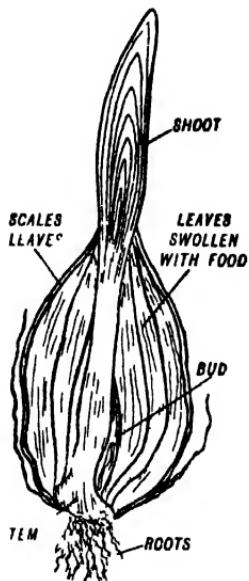

Fig. 132 Bulb cut in two
4. Bulbs. If you cut an Onion in two lengthwise you will see its structure (Fig. 132) At the base of the bulb there is a small
pointed stem from the under side of which roots arise. The remainder of the bulb consists of leaves which are swollen with food. These leaves are protected on the outside by other scale-like leaves. The way in which these leaves are arranged may be compared with the arrangement of leaves in an ordinary bud. A bulb is really a large bud, whose leaves are swollen with food. A new bulb arises as a small bud on the short stem at the base of one of the fleshy leaves (Fig. 132).